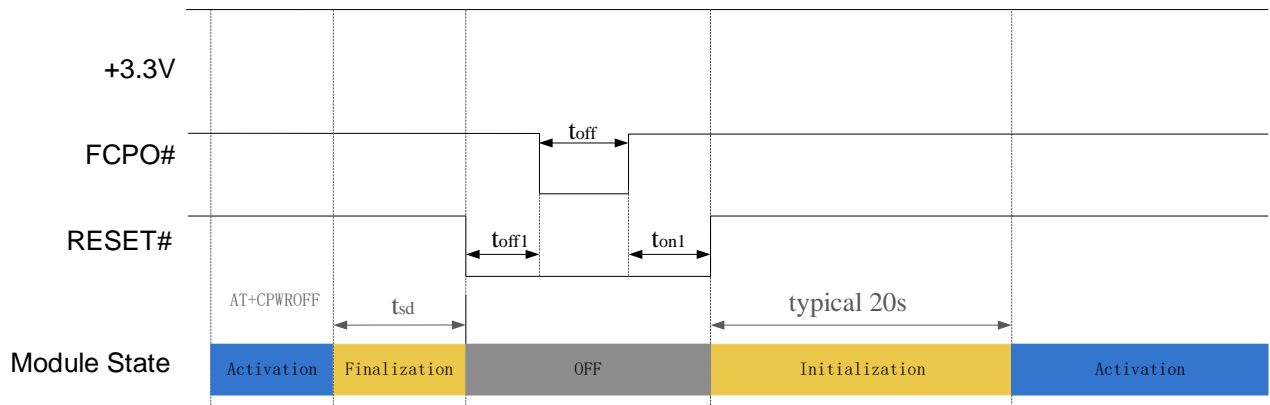

Figure 11. Reset timing 2nd
- Reset timing 2nd in Figure 11, PMU of module internal will be off in reset sequence (including whole power off and power on sequence, t_{sd} can refer section 3.3.2), recommend using in system warm boot.